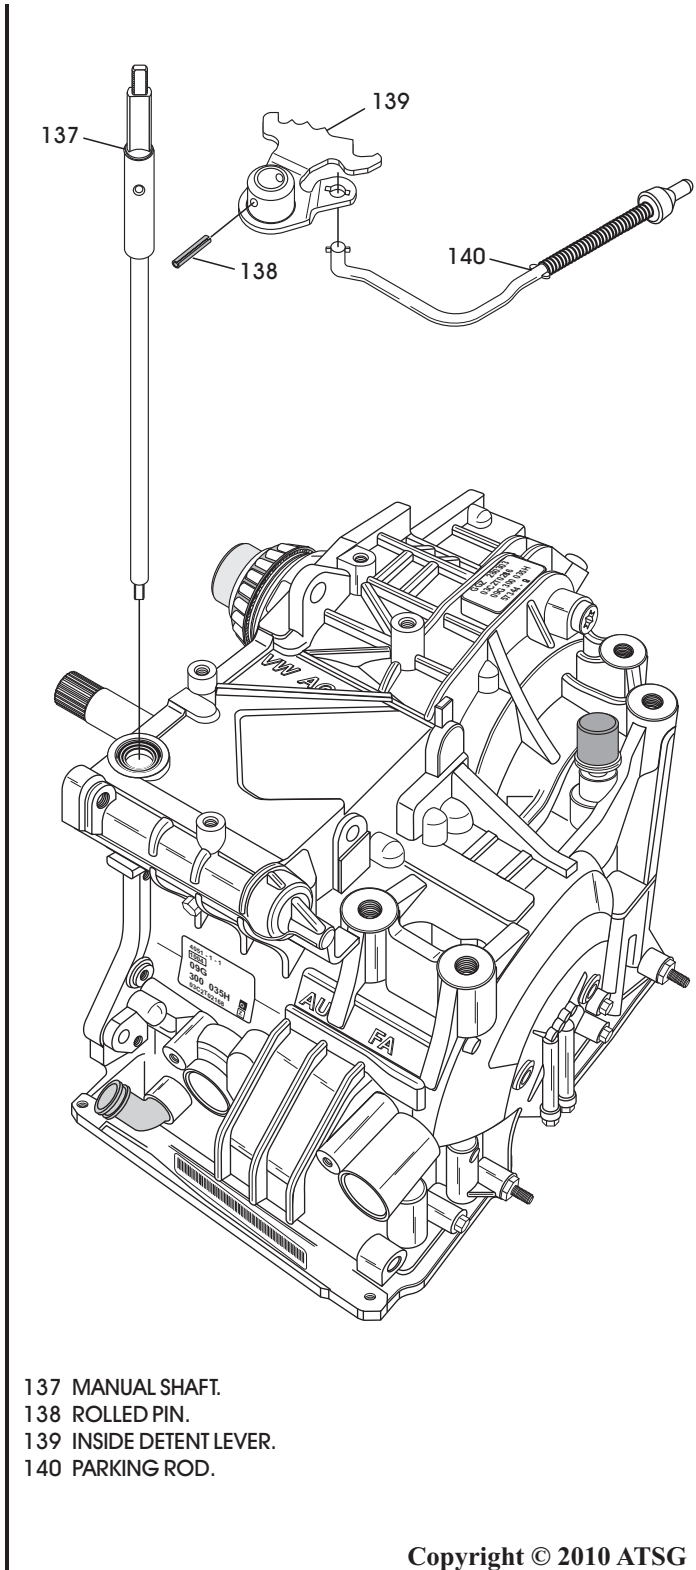

Figure 188
51. Assemble the park rod to the inside detent lever, as shown in Figure 188.
53. Install the manual shaft through the case bore, through the inside detent lever, as shown in Figure 188.